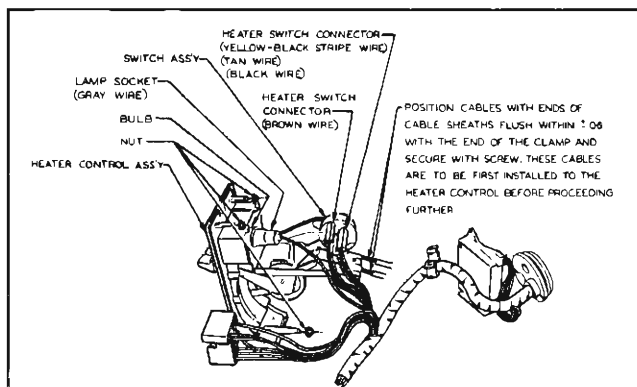

Fig. 12-8 Connections at Heater Control Panel
4. Move control assembly out from instrument panel and disconnect temperature and air control bowden cables from heater control assembly (Fig. 12-8).